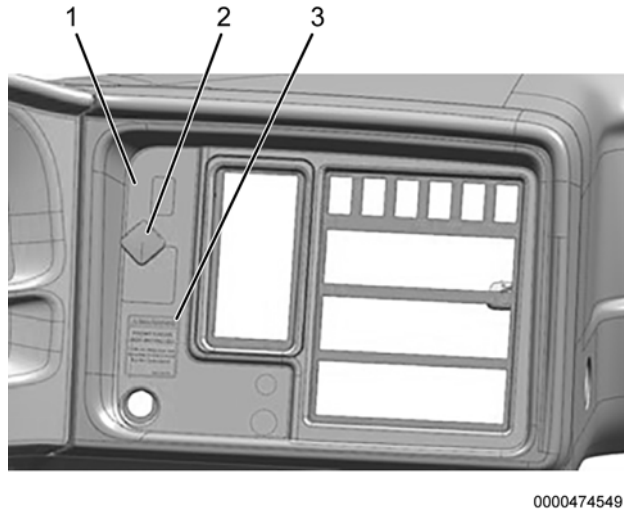

Figure 4. CE Bus without Manual Door
7. For CE Buses WITHOUT manual door, determine if warning label (Figure 4, Item 3) is located below park brake knob (Figure 4, Item 2).
8. Clean dash panel (Figure 4, Item 1) located adjacent to park brake knob (Figure 3, Item 2) and install label (Figure 4, Item 3). Proceed to Step 13.